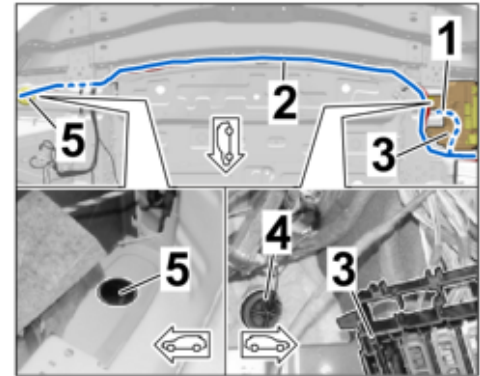

Figure 32
3.2.4 Rear end plate area and grommet / stopper for trunk floor (⇒ Figure 32)
- Branch for exhaust flap (left) to grommet / stopper for trunk floor, left (beneath fuse box in trunk (left) → branch for exhaust flap on the right to rear closing panel → along rear closing panel (⇒ Figure 32 -top-) → grommet / stopper for trunk floor, right.